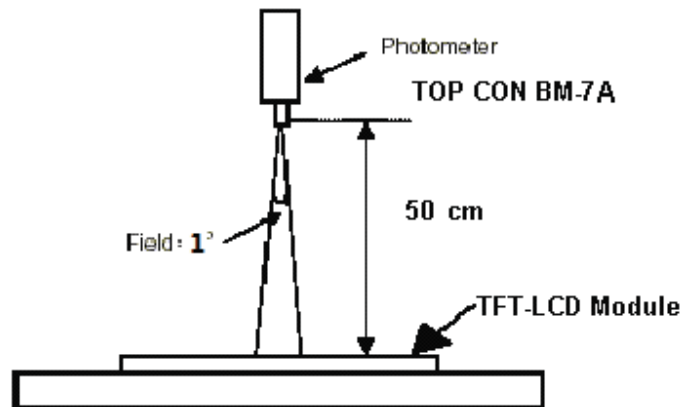

Fig. 9.1
- In the dark room less than 100 lx, the equipment has been set for the measurements as shown in Fig9.1